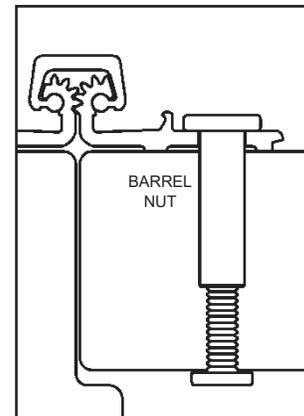

Fig. 6
- Through-bolt barrel nuts must be installed on the secured side of the door. Use supplied punching tool to mark the centers of the through-bolt holes. To ensure the through-bolt hole is in the center of the hole in the hinge leaf, pre-drill with 1/4" (6.5 mm) drill through the door and perpendicular to the door surface. Enlarge the hole to 3/8" (9.5 mm) diameter on the door side where the barrel nut will be installed. Refer to Figure 6.